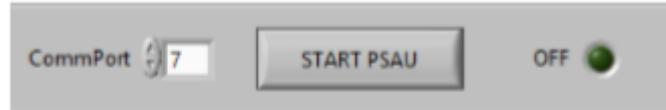
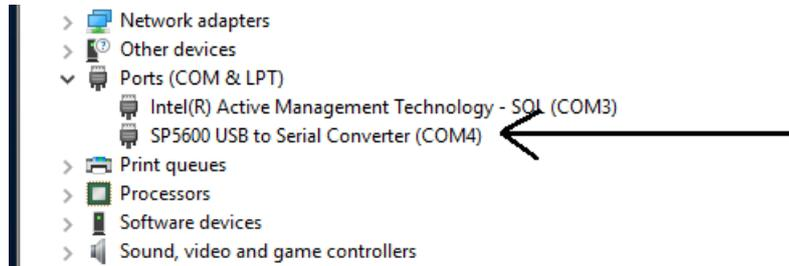

Figure 18: CommPort box on the accompanying software
Figure 19: Port number in device manager (4)
- Bottom-left panel: tabs address the Digitizer DT5720; This is done by setting the display persistence to infinite as before and measuring the position corresponding to the first and second pulse. The difference between the two pulses will be the peak-peak voltage. In order to measure the peak-peak voltage use the oscilloscope menu of measurements and display the horizontal measuring lines. Adjust the two horizontal lines to the position of the peaks. In Fig. 19 the peaks are respectively represented by the orange and yellow pulses. The difference in mV between the position of the two horizontal lines will be the value of the peak-peak voltage. Once the value of the peak-peak is determined adjust the oscilloscope to trigger on half the the value of the first line as determined previously, the V_{pp} , and measure the frequency, this will correspond to the 0.5 Dark Count Rate (DCR_{0.5}) The 1.5 Dark Count Rate (DCR_{1.5}) can be found by triggering the oscilloscope on 3/2 the V_{pp} . The optical cross talk at a given gain can be calculated as follows
1. Within the GUI top portion of the main panel that controls the PSAU ensure that the correct CommPort number is selected. This value should correspond to the Port number which the PSAU is registered to the computer. The CommPort setup box looks like the one shown below in Fig. 18.
2. In case of issues: Open device manager, locate the "Ports" drop down, and ensure that the CommPort number on the accompanying software matches the SP5600 USB to Serial Converter port number. Refer to the Fig. 19. The correct CommPort number will only appear after turning on the PSAU. If different, simply type in the correct number into the setup box shown in Fig. 18 on the left and press enter. The message 'CHECK CONNECTIONS' will appear to the right of the 'START PSAU' button shown above if the CommPort numbers do not match.